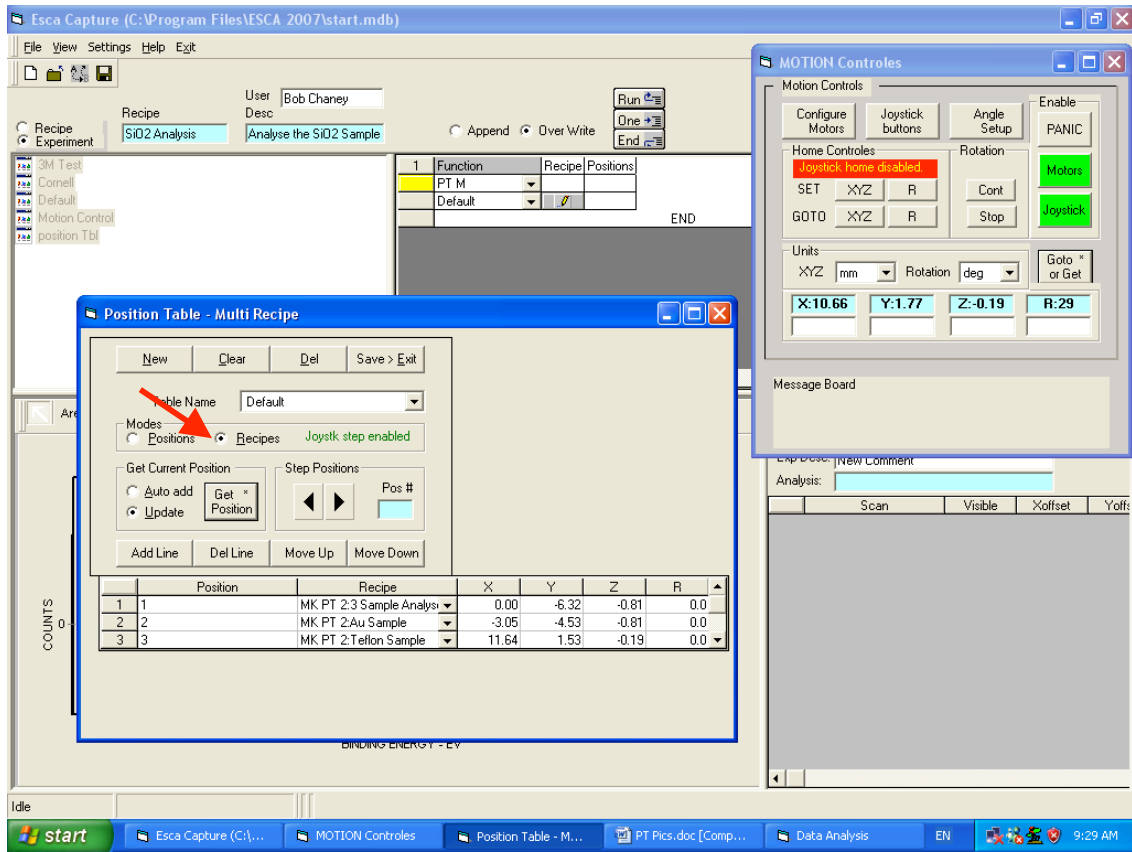

Figure 7 Expand the Position Table-Multi Recipe dialog by clicking on Recipe.
- 2.4 Expand the *Position Table-Multi Recipe* dialog to include both *Position* and *Recipe* columns by selecting *Recipes* in the *Modes* portion of the dialog (Fig. 7).